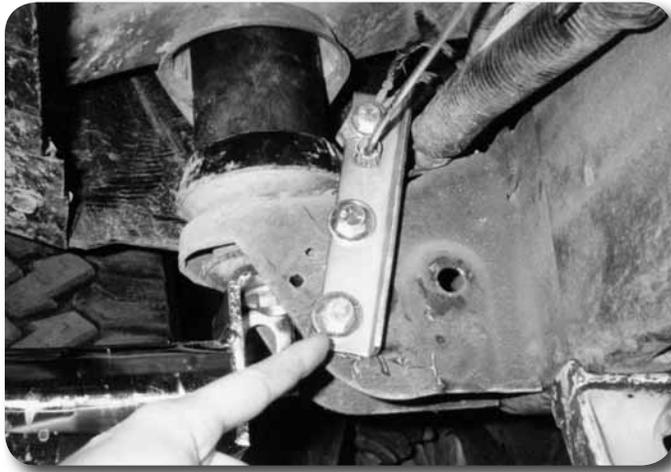

Figure 30
67. Using the relocation bracket as a template, mark the two lower mounting holes on the frame cab mount bracket. Drill 3/8" holes and mount the bracket using 3/8" x 1" bolts, nuts and 3/8" SAE washers **Figure 30**.